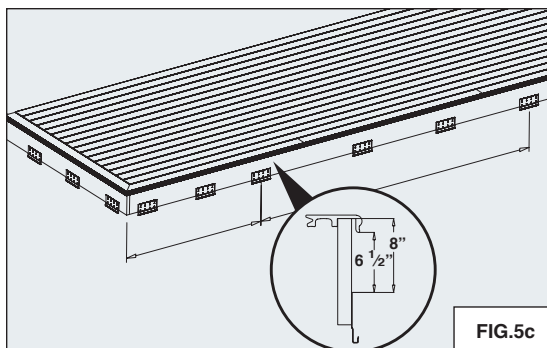

FIG.5c
- Screw the Cladding Hangers into the rim joist with Deck screws (four #8 x 1½" screws per hanger). The top edge of the hangers should be located 6½" below the lower lip of the bullnose. Use one hanger for every 3-5 feet of cladding length. Install a single hanger wherever two cladding lengths will meet end-to-end so that the hanger is shared by the two cladding lengths. (REFER TO FIG.5c)